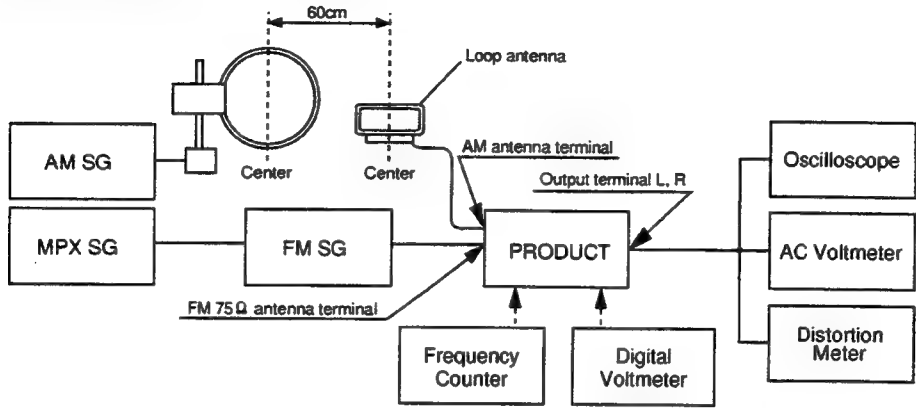

Fig. 7-1-1 AM and FM adjustment wiring diagram
- 1. Wiring Connect the wires as shown in Fig. 7-1-1 (FM ANT. terminal: 75Ω).